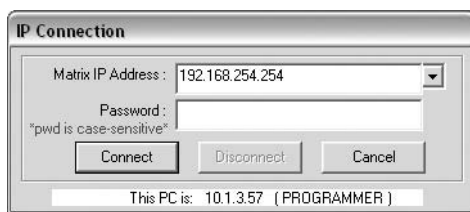

Figure 5-4 — Address and password entry
3. If you selected IP [LAN] in step 2, the IP Connection window appears (figure 5-4).